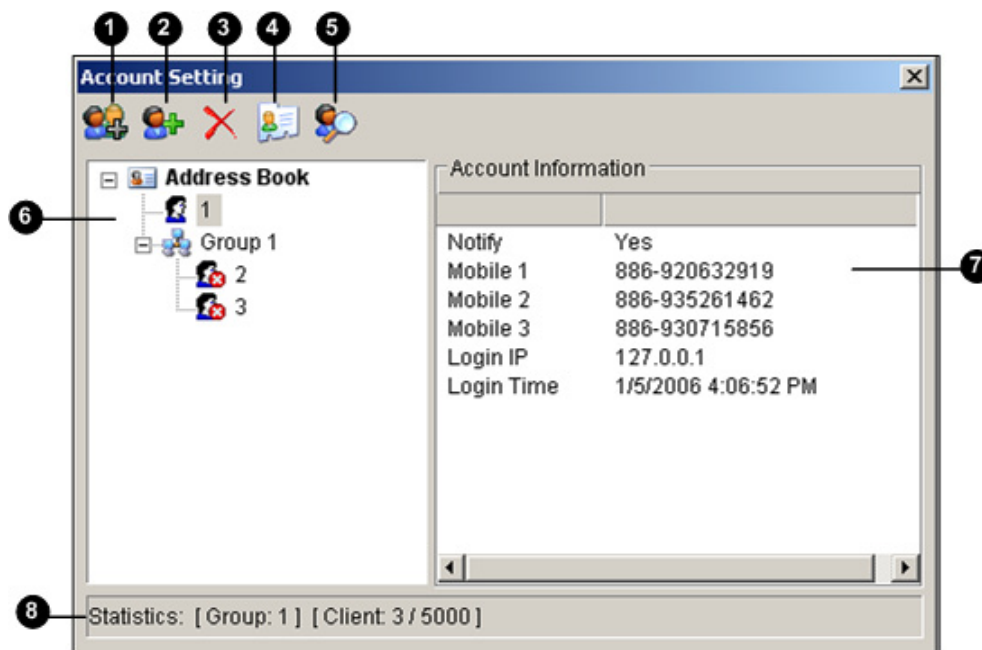

Figure 10-6 Account Setting
1. Click the Add A Client button (No. 2, Figure 10-6). This dialog box appears.
In the Account Settings window (Figure 10-6), right-click the desired client and then select **Disable**.